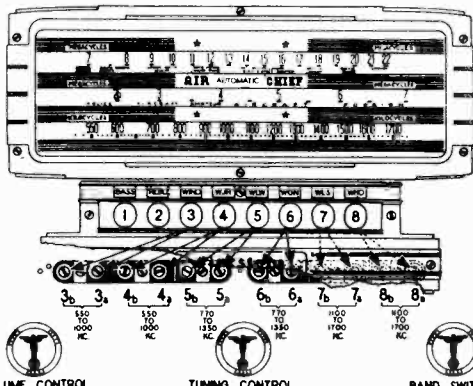

FIG 1
- PUSH IN BUTTON No. 2. The lamp mounted on the back of the chassis just to the right of the selector drum will be illuminated when the button is depressed. (See Fig. 1)
7. Locate the contactor corresponding to Button No. 2. This contactor has a BROWN lead attached to it (see Fig. 1 or label on back of chassis for the color of the wire associated with each button), and is the extreme right hand contact on the inner circle of the semi-circular bridge, when viewed from rear of chassis. Loosen the knurled nut on this contactor (not more than one-half turn), THEN SLIDE THIS CONTACTOR ALONG THE BRIDGE TO THE POINT INDICATED BY THE WHITE ARROWHEAD ON THE SIDE OF THE ROUND DRUM. When this point is reached, the lamp will go out. If the contactor is moved farther than the point at which the lamp extinguishes, the lamp will again be illuminated. Move the contactor back and forth between the two points at which the lamp extinguishes, and set the contactor midway between these two points. Then tighten the knurled nut as tightly as possible, with the fingers. The lamp should still be out after tightening the contactor. If it is not, the contactor must be re-set.
9. Set up the remaining seven buttons in a similar manner. The contactors for the remaining buttons can be identified as follows: (See Fig. 1 or label on back of chassis.)
3. Make a list of the frequencies of six nearby stations to which you wish to set up the buttons. Be sure to select nearby, powerful stations, since weak stations will generally give better results when tuned manually. Also BE SURE TO SELECT STATIONS FALLING WITHIN THE TUNING RANGE OF THE INDIVIDUAL BUTTONS, AS INDICATED IN FIG. 1.
Each of the buttons on your Push-Button Tuner has a definite range of frequencies to which it can be tuned as shown in Fig. 1. It is imperative that in setting up the buttons, you select stations whose frequency is in the indicated tuning range of that button. FAILURE TO SELECT THE PROPER BUTTON WILL RESULT IN THE INCORRECT SETTING OF THE TRIMMER ADJUSTING SCREW AND WILL ALSO CAUSE "DRIFTING". The correct frequencies of your local stations may be obtained from your newspaper of radio call magazine. For example, suppose you want to set a button to station WLW whose frequency is 700 kilocycles. Refer to Fig. 1 which shows that this frequency falls within the operating range of buttons No. 3 or No. 4, whose range is 500 to 1000 KC. Therefore either button No. 3 or No. 4 can be used for the automatic tuning of WLW.
7. Now push in the third button from the left (No. 3 in Fig. 10). Using a small screw driver, insert it in the second screw from the left (No. 3a in Fig. 1). Rotate the screw SLOWLY until the program that you have previously tuned in manually is again tuned in. If it cannot be heard, advance the volume control. BE SURE THAT YOU ADJUST THIS PARTICULAR SCREW (3a) UNTIL THE INVERTED "V" SHADOW IN THE "TUNING EYE" IS NARROWEST. It is advisable that you turn the screw in and out so that you will tune across the station several times in order that you may be sure that you have located the correct tuning point.
8. Next insert the screw driver in the first screw on the left (No. 3b, Fig. 1) and turn it until the program is received with maximum volume. The correct position is indicated by the ends of the inverted "V" in the "Tuning Eye" being closest together. Now go back to screw No. 3a and see if any improvement in the reception can be made by adjusting it. Also repeat this adjustment for screw No. 3b.
2. By referring to Fig. 1, determine the dual trimmer associated with the button whose range you wish to change.